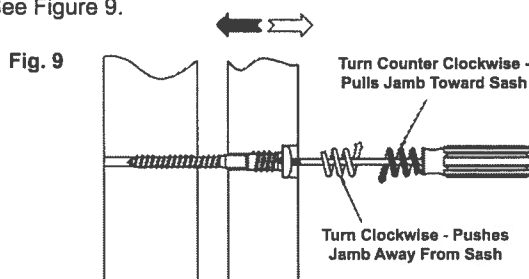

Fig. 9
9. Measure the width of the unit at the head, sill and check rail. These measurements should be equal. If not, adjust the jamb jacks to obtain an even reveal between sash and frame and for proper sash operation. Using an S3 square bit driver, turn the jamb jack clockwise to move the jambs away from the sash and counterclockwise to move the jambs toward the sash. Adjust jamb jacks until the width measurements at the head, sill and check rail are equal. Insert plastic hole plugs provided into the jambliner at the jamb jack location. Adjust shims at checkrail as necessary. See Figure 9.